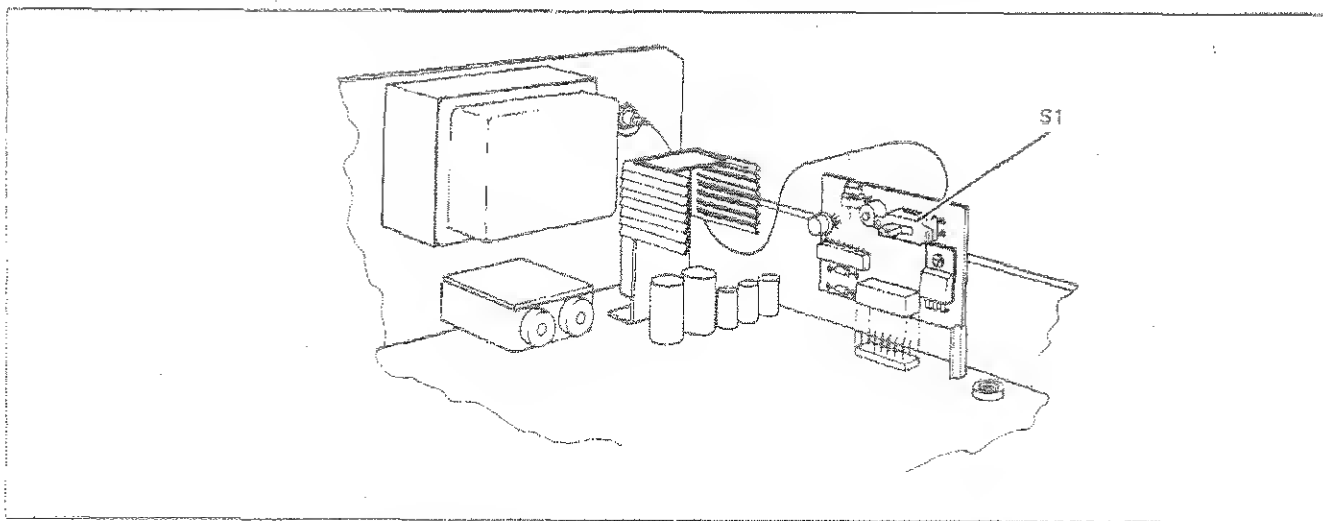

Figure 6-1A. Model 775A Standard 5 ppm Time Base
2. For the standard 5ppm time base locate switch S1 on the timebase board and slide it to the EXT position. See Figure 6-1A for the location of S1. The EXT position is with the switch towards the front of the Model 775A